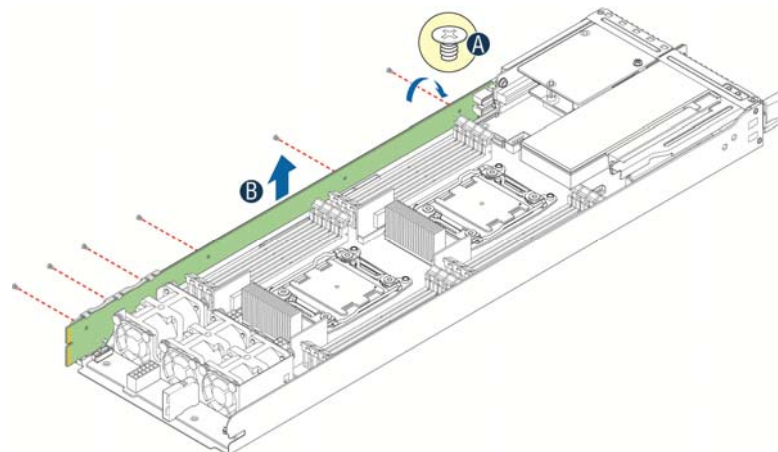

Figure 59. Removing the bridge board
1. Remove pre-installed bridge board from node tray, see Figure 59.
4. Remove Bridge Board, See Figure 59